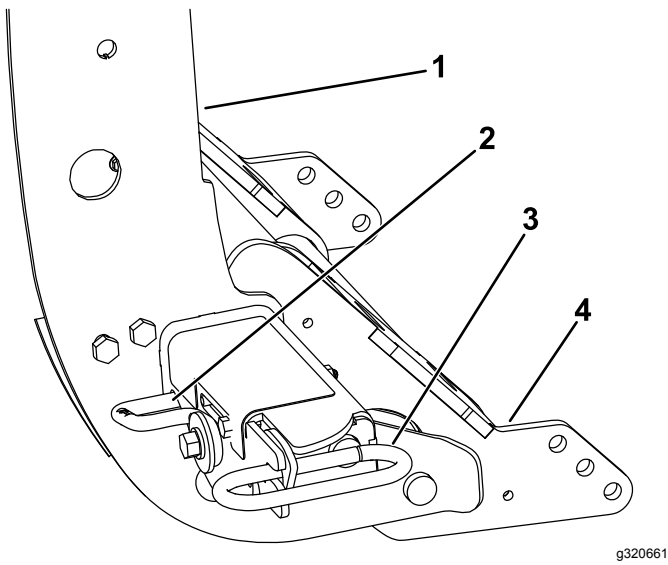

Figure 22
- Turn the levers on the couplers to the OFF position (Figure 22).